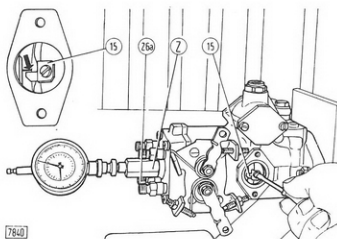

Fig. 66 - Timing the Pump
Remove centre plug (2, Fig. 56) from the hydraulic head and turn the pump drive shaft to align segmental slot (87, Fig. 64) to delivery connector (26a, Fig. 66) marked "A", coupled to engine cylinder No. 1. Fit tool No. 290781 (see Z) and zero the dial gauge with the rotor in start of stroke position.
Remove timing cover (48, Fig. 56) to gain access to the timing pointer (see Fig. 66) and slowly rotate the drive shaft anti-clockwise until the rotor has moved 1 mm (.040 in.). Hold the shaft still and align pointer (15) to the cam plate mark applied in production.